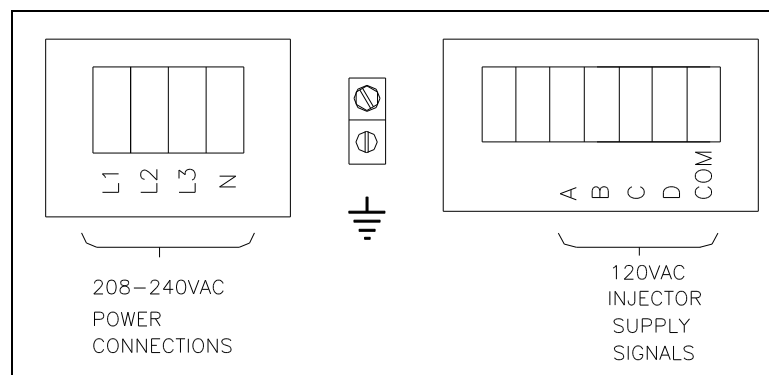

Figure 1-5: Electrical Connections and Chemical Supply Signals
- 1.6.1.2 Locate the power terminal block cover in the upper left corner of the machine when viewed from the back. Remove the screw and lift out the cover. Connections are as shown in Figure 1-5.
The washer control may be programmed to send six 120V output signals for a chemical injection system of up to four chemical sources. There are convenient electrical connection points for the injection pumps in the rear of the machine, as shown in Figure 1-5. The four independent pumps can be controlled through the signals A, B, C and D. The COM shown in Figure 1-5 is the common or return for these injection signals. For the injection sources, program codes 0 through 6 and their respective terminal block connections and combinations are as shown in Table 3.